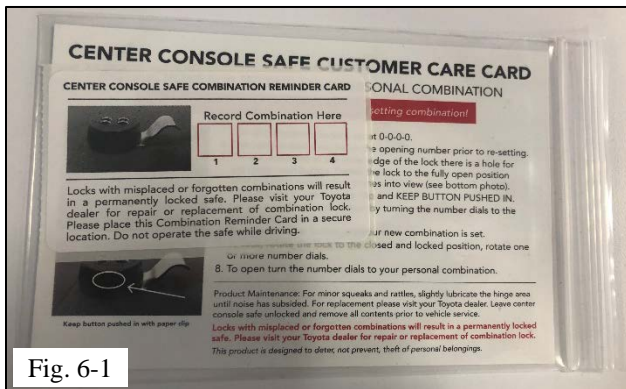

Fig. 6-1
- (a) Place the customer care cards in the vehicle glove box (Fig. 6-1).